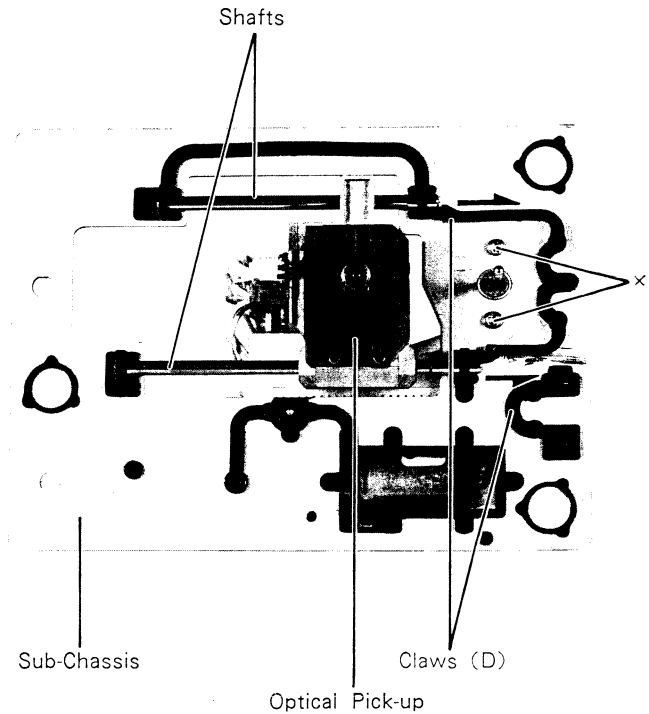

Figure 10
(2) While pressing two claws (D) in toward pull out two shafts in the arrow direction as shown in Figure 10.
(2) Remove two screws marked "X" as shown in Figure 10.